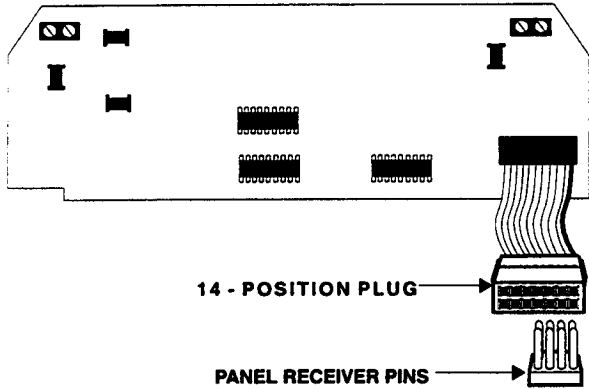

Figure 4. Connecting the Receiver Module Ribbon Cable to the Panel Pins
- 4) Connect the module ribbon cable connector to the receiver pins on the Panel circuit board (see Figure 4).